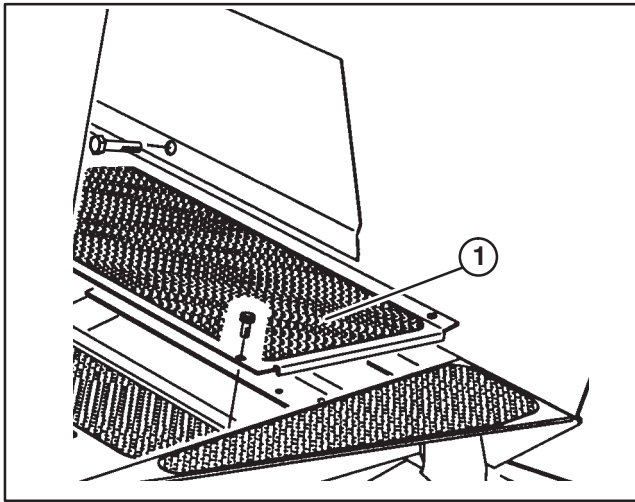

Figure 4
(Fig. 4)
1. Remove fastener securing left front corner of floor panel to frame (Fig. 4).
2. Replace with 5/16–18 x 5/8" lg. flange head capscrew supplied in loose parts (Fig. 4).